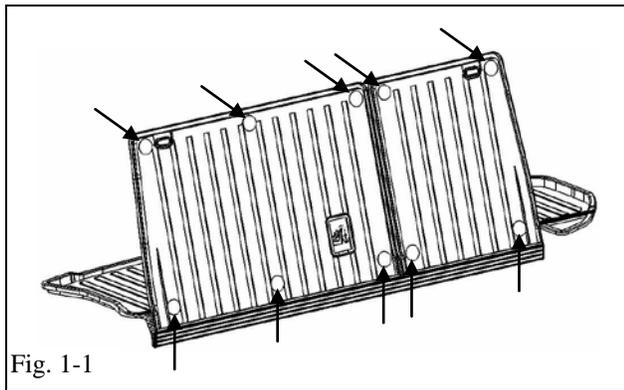

Fig. 1-1
- (a) Open package and check part for damage and kit contents, including 10 adapter pads attached to velcro on the seatback area of liner. (Fig 1-1)